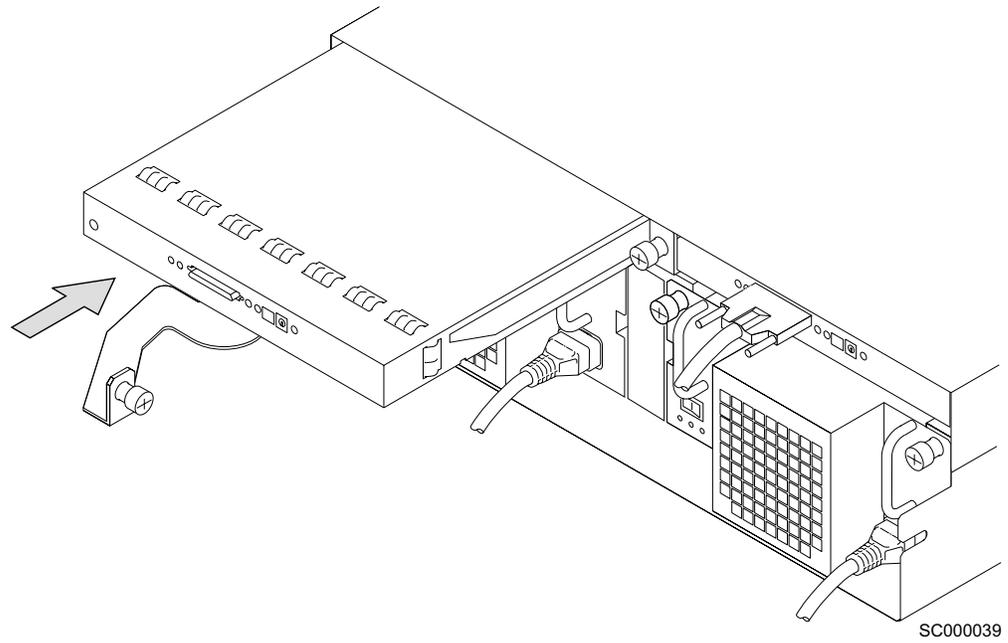

Figure 74. Pushing the replacement SCSI Interface card in
5. Push the replacement SCSI Interface card assembly into the 2104 Model DS4. See Figure 74.